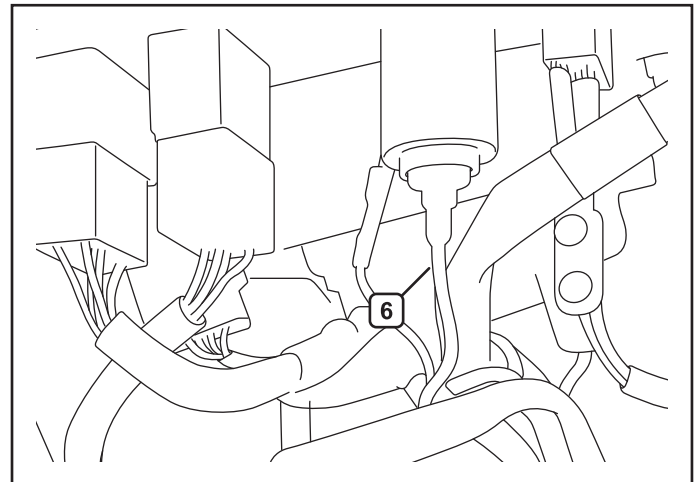

Figure 8.
Accessory Power for Switches or Other Controls: Use the provided wire terminal (L) to connect to the accessory outlet wire connection (6). See figure 8.